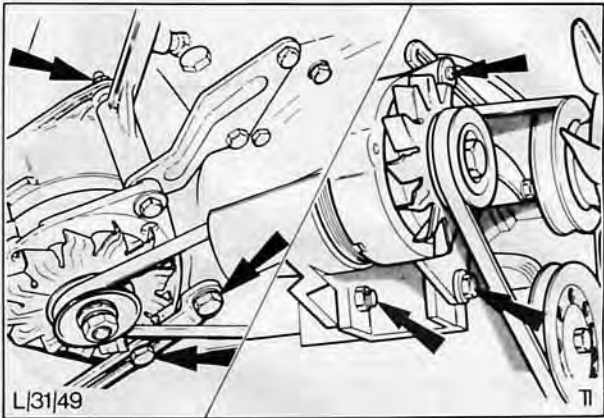

Fig. 4. Alternator mounting
- 1. Slacken alternator adjusting arm clamp bolt and mounting bolts, Fig. 4.